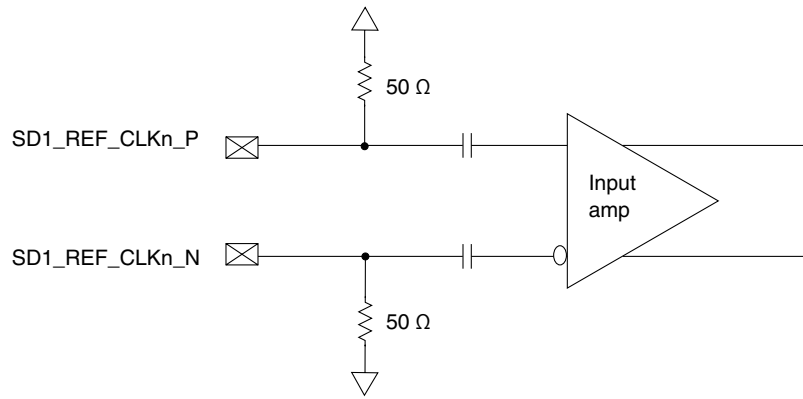

Figure 75. Receiver of SerDes reference clocks
- The SD1_REF_CLKn_P and SD1_REF_CLKn_N are internally AC-coupled differential inputs as shown in Figure 75. Each differential clock input (SD1_REF_CLKn_P or SD1_REF_CLKn_N) has on-chip 50-Ω termination to SGNDn followed by on-chip AC-coupling.
- For an external DC-coupled connection, as described in Figure 75, the maximum average current requirements set the requirement for average voltage (common mode voltage) as between 100 mV and 400 mV.